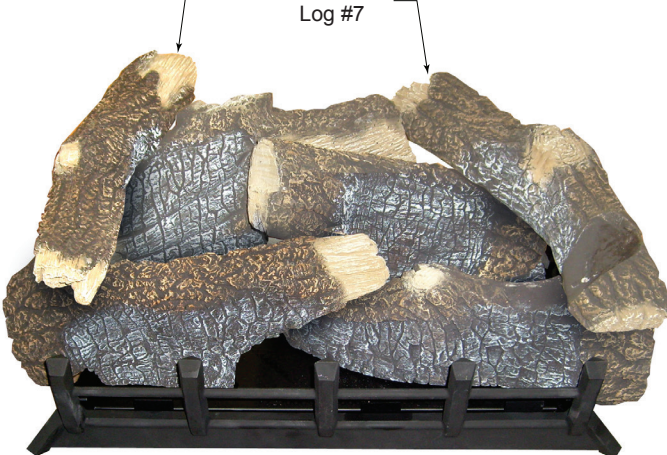

Figure 36.
- Place top left log (#6) on left rear log (#4) and left front log (#5) using locating grooves on bottom of #6 and locating blocks on logs #4 and #5. Figure 36
- Place right top log (#7) on right rear log (#3) and right front log (#2) using locators on the bottom of log #7 and locators on logs #2 and #3. Figure 36